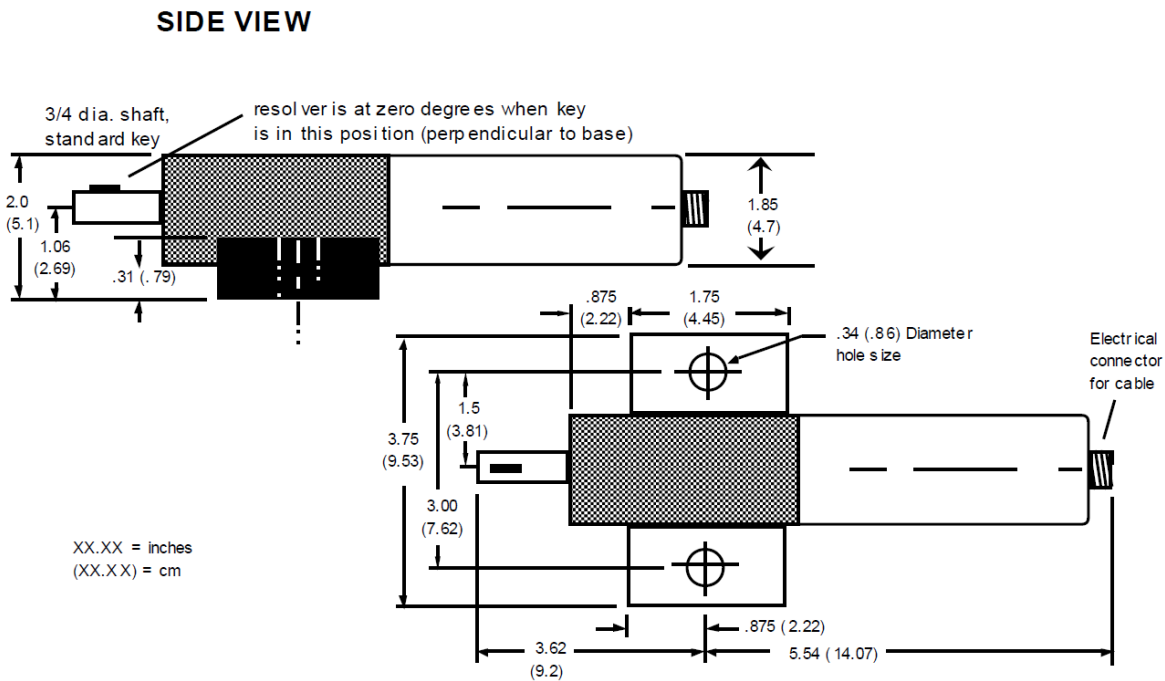

Figure 2-5. Resolver (reflects dimensions with military-style connector)
Once you have thought out your design and gathered the parts, mount the resolver by bolting it to the press or other platform at the spot you selected. Install your drive mechanism. It does not matter which way the resolver turns. You will set the direction of rotation when you wire it. You will also zero the resolver electronically later. Set the resolver as close to zero as you can by turning the shaft so the keyway is aligned with the arrow on the housing. See Figure 2-5. *The press should be at top dead center when you do this.* Turn the shaft before attaching the chain or other drive mechanism.
4. Attach the wires to the connector as shown in Figure 2-5. You will be wiring in parallel (#4 red to red, #5 yellow to yellow, etc.), so that when you are finished, you should have two wires of the same color connected to each terminal on TB105. To connect a wire, refer to Step 5 in "To wire the resolver."